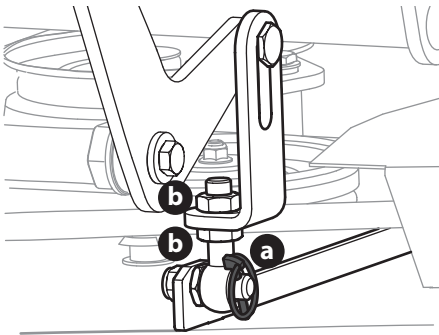

Figure 52
3. Adjust the eyebolt (a) at the left front of the deck so that the blade-to-ground height at the right outside blade tip matches that of the left outside blade tip. This is done by loosening the jam nuts (b) on the eyebolt (a) and tightening the upper jam nut (b) to raise the deck and loosening the jam nut (b) to lower the deck. The right outer blade tip height is fixed by the right, front eyebolt (a) so you must adjust the left outer tip to match it (Figure 52).
4. Once the proper adjustment is made, re-tighten the jam nuts (b) (Figure 52).
3. Loosen the jam nuts (b) at the rear left and right of the deck eyebolts (a) (Figure 52).
4. Start at the rear right to raise the rear of the deck, tighten the upper jam nut (b) to raise the deck or loosen the upper jam nut (b) to lower the rear of the deck (Figure 52).
5. Adjust the jam nut (b) at the rear left to take the "slack" out of the threaded rod (Figure 52).
6. Tighten both lower jam nuts (b) to secure the deck adjustment (Figure 52).
7. The final adjustment would be to take the "slack" out of the left rear linkage if the rear of the deck was raised by adjusting the jam nuts (b) on the eyebolt (a). Loosen the jam nuts (b) and tighten the upper jam nut (b) to remove "slack" (Figure 52).
8. In many cases it will be necessary to adjust deck height using both eyebolt (a) adjustments and pitch adjustment to achieve the correct blade-to-ground heights. If you remember that the front right blade tip adjustment is fixed and you level to that height, adjusting the decks will be simplified (Figure 52).